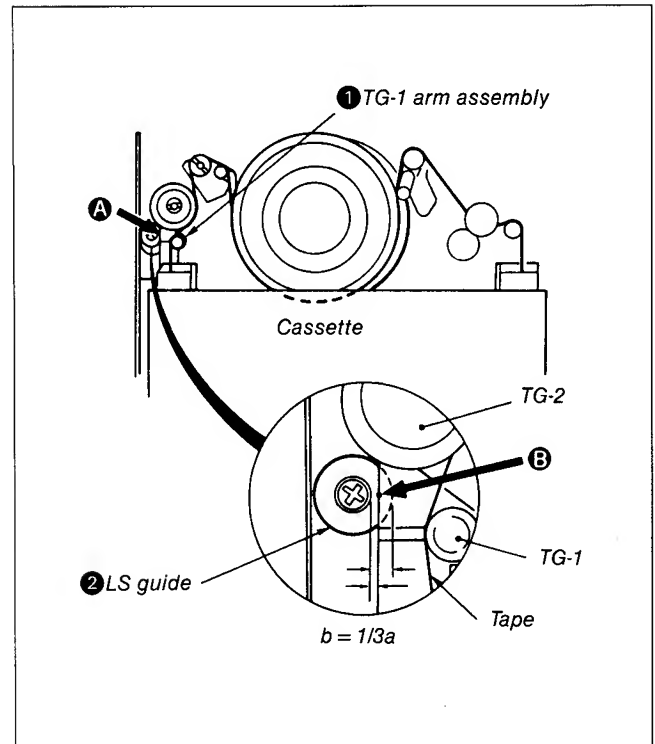

Fig. 8-42.
- 2) In tape running state, confirm whether the arrow marked **A** point is positioned at the point (arrow mark **B**)  $1/3$  within the thickness of LS guide **2** or not. (See Fig. 8-42)